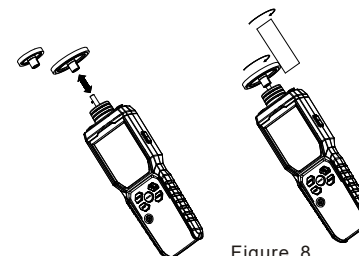

Figure 8
4. Contact---Surface Velocity/Length Measurement (Figure 8)